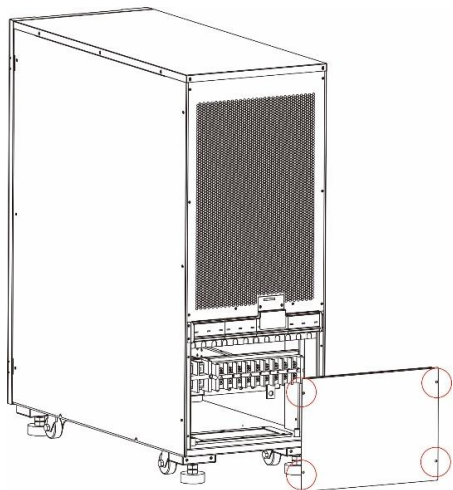
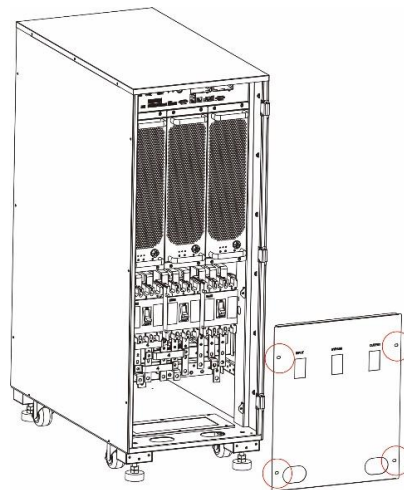

Fig. 3-6 Remove the cover of distribution unit (30/40/60 kVA)
Fig. 3-7 Remove the cover of distribution unit (80/90/120 kVA)
Step 7: turn the wrench counterclockwise to raise the four support feet at the bottom of UPS until all the four wheels at the bottom of the case are evenly landed and the support feet are completely suspended. See Fig. 3-7.
Step 5: open the front door and remove the cover panel of the distribution unit, as shown in Fig. 3-6 and Fig. 3-7.
Step 1: remove the cover plate of distribution unit (80kVA/120kVA need to open the front door first), as shown in Fig. 3-6 and Fig. 3-7.